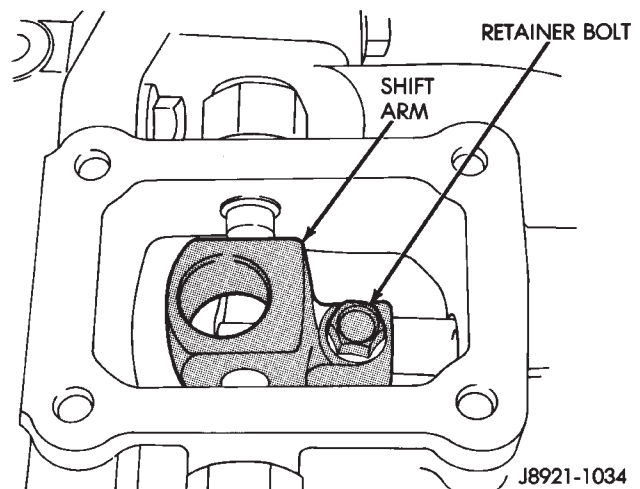

Fig. 23 Shift Arm Retainer Bolt Removal
- (10) Remove shift arm retainer bolt (Fig. 23).